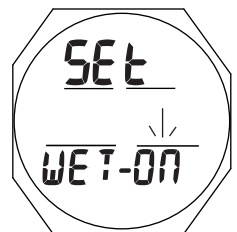

Fig. 47 - SET WET ACTIVATION
**Set Wet Activation**, information includes (Fig. 47):